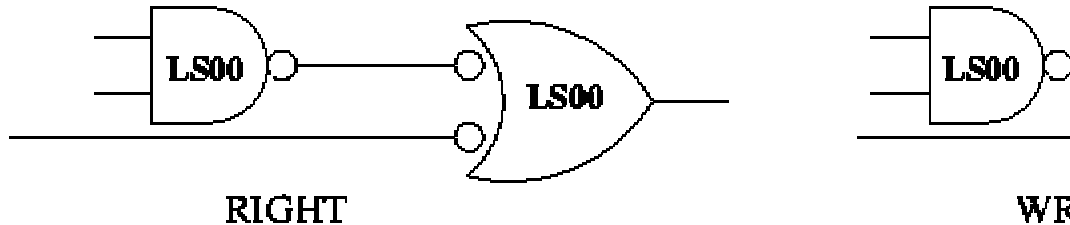

Figure 3: Symbology
7. Use proper symbology: Inversion bubbles should match up, as shown in Figure 3.